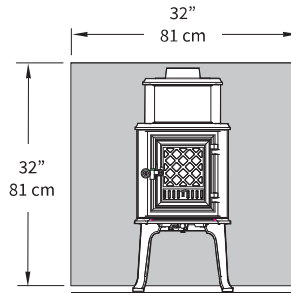

Figure 21. Min. Rear Wall Shield dimensions
- Min. wall shield dimensions, see Fig. 21 - 22.